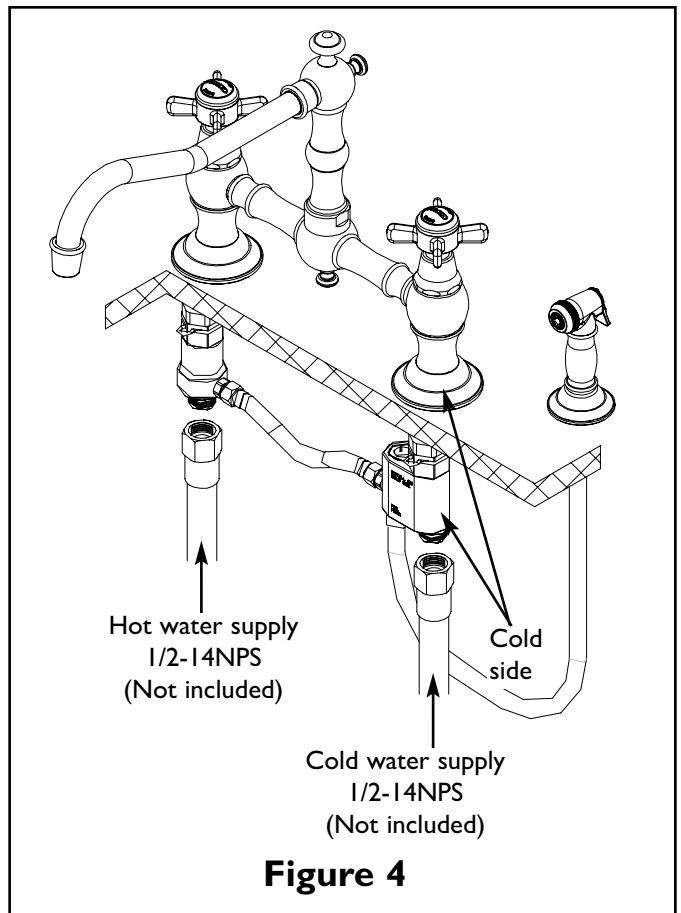

Figure 4
6. Attach hot and cold water supply hoses (1/2-14NPS, not included) to appropriate valve, (utilizing cone washers, friction rings and nuts supplied.) See Fig. 4.